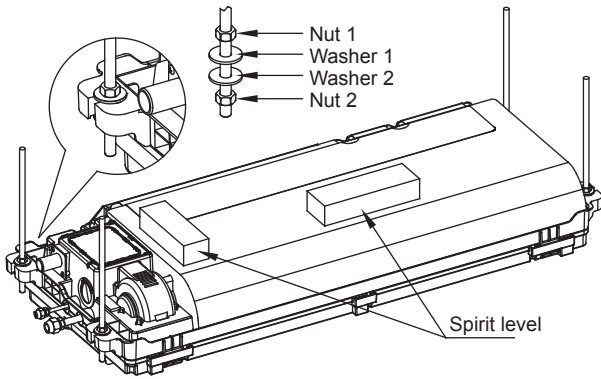

Figure 3.8
2. Once you have lifted and mounted the unit, use M6x12 screws (accessory Installation screws for panel) to secure the installation board (accessory installation paper) on the unit body. Make sure you verify the size and positions of the opening in the ceiling before you do so. See Figure 3.8.